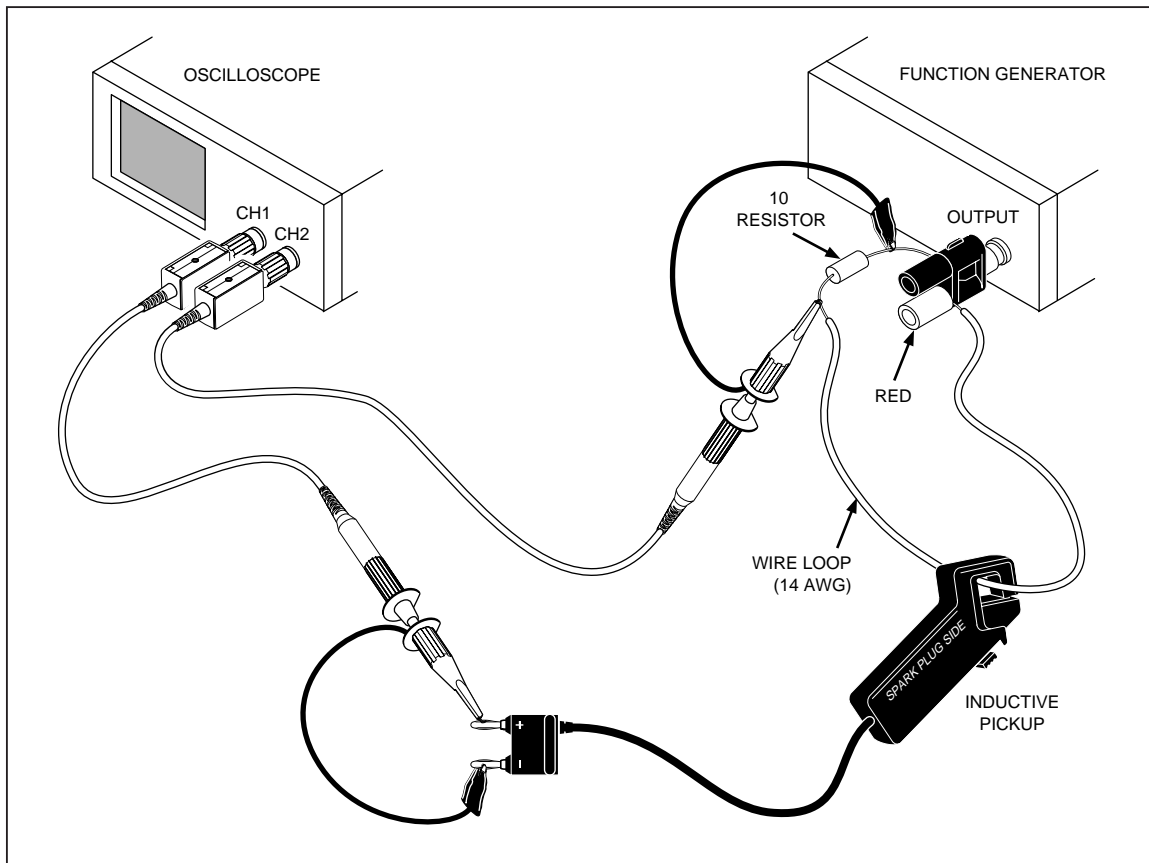

Figure 3-4. Setup for Inductive Pickup Test
2. Connect the other end of the 10-Ohm resistor to the terminal LOW output of the function generator. Place the other end of the 14-AWG wire to the HIGH output of the function generator. See Figure 3-4.
4. Clamp the inductive pickup to the wire loop on the HIGH side of the resistor as shown in Figure 3-4.